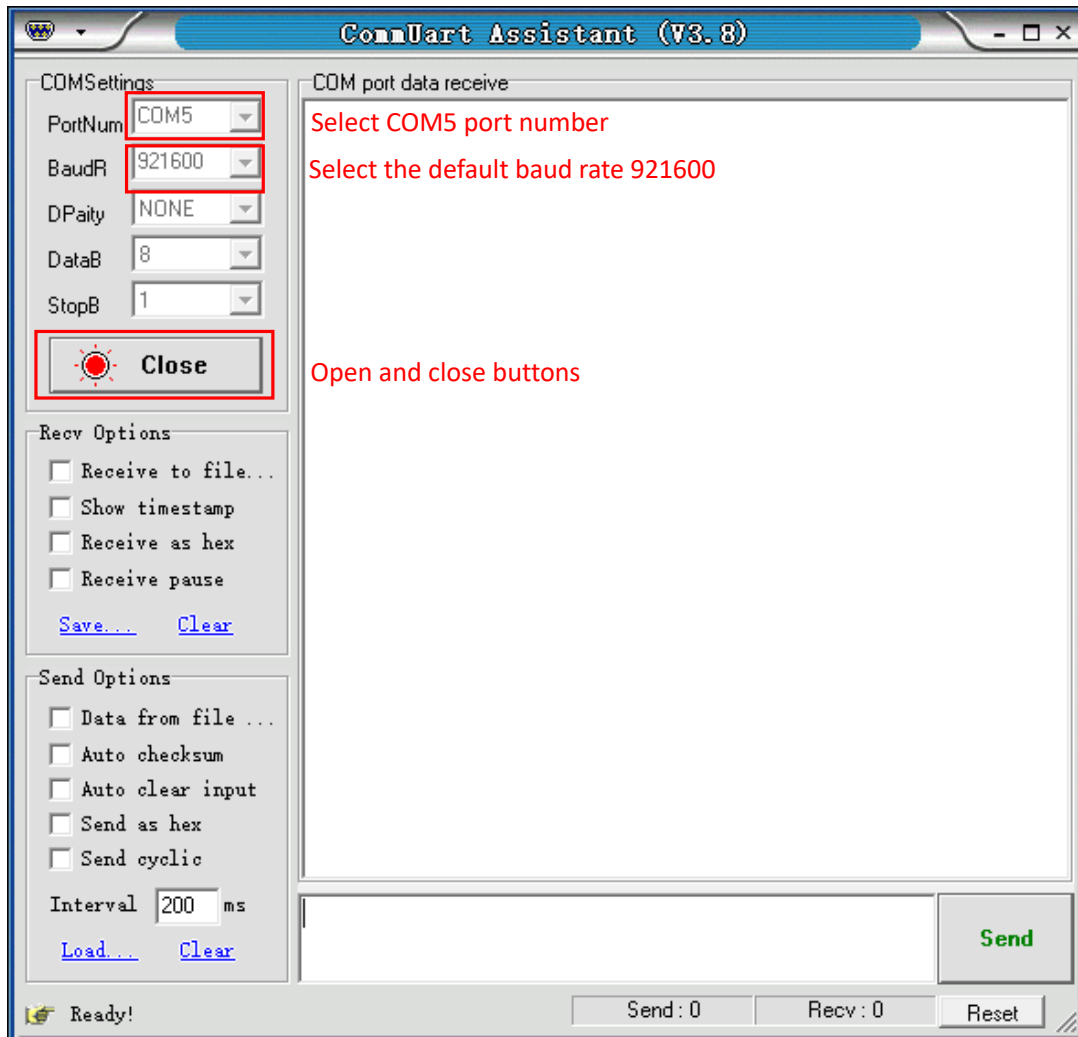

Fig.105 USB connection succeeds
2) After these settings are completed, if you see a black circle like , you need to click the button to make it red like . If you cannot make it red, please check the COM number and repeat the click. If the connection is OK, you will see Fig.105.